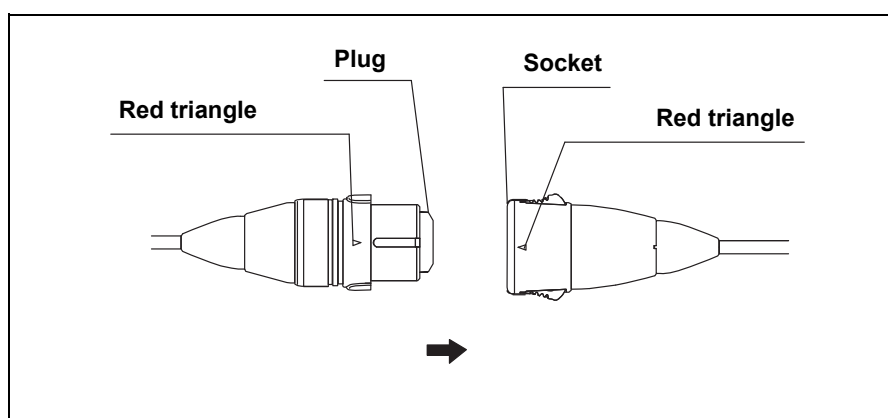

Figure 4.8
1. Align the red triangle on the plug of the transducer with the red triangle on the socket (see Figure 4.8).